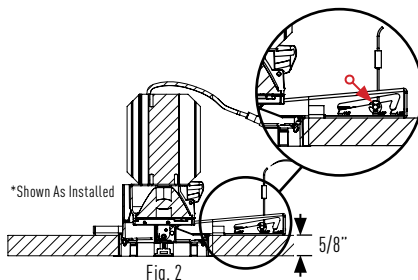

Fig. 2
- 5/8" setting for single 5/8" sheet rock (Fig. 2) (Note: 5/8" maximum ceiling thickness)
2. Grip attachment clip and pull tension down below ceiling level and engage clip onto attachment point (Fig. 2)
4. While holding opposite sides evenly push module to snap into channel and confirm module sits parallel to ceiling line and is securely fastened into housing (Fig. 2)
2. Peel off backing on mud ring (Fig. 2)
2. Grip attachment clip and pull tension down below ceiling and engage clip onto attachment point, push flush to ceiling (Fig. 2)